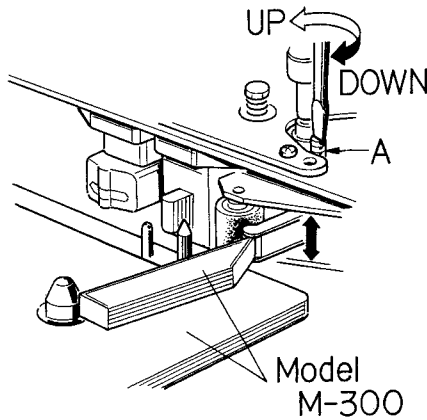

Fig. 6.12 Tape Guide Height Adjustment
- (1) Load with care the Tape Guide Height Measurement Jig (Model No. M300 from Information Terminals).
- (2) Refer to Fig. 6.12. and adjust the tape guide height adjusting screw A so that the tape guide may become fixed to the jig.